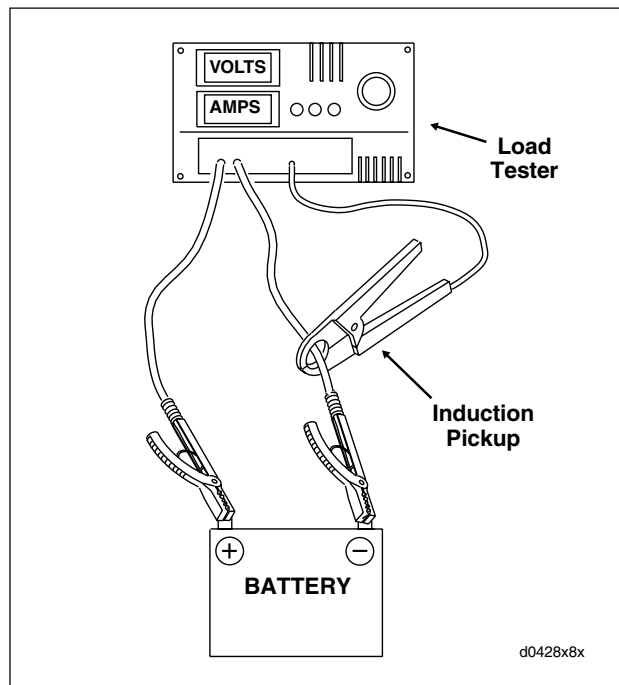

Figure 1-16. Load Test Battery
7. Connect tester leads to battery posts and place induction pickup over negative (black) cable. See Figure 1-16.